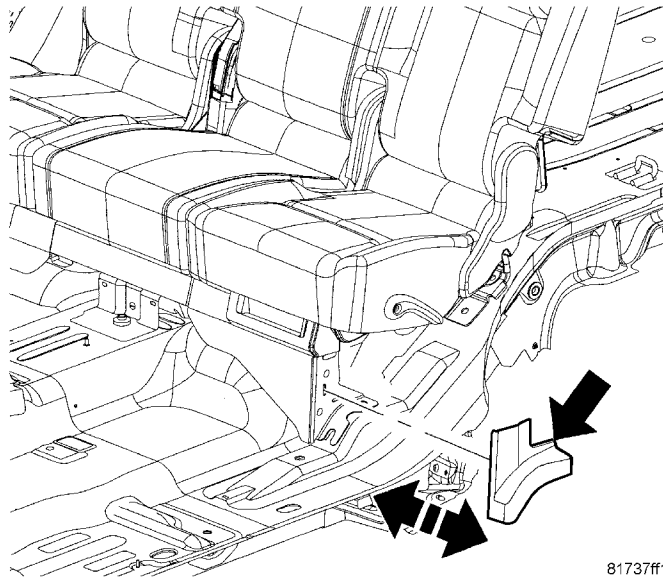

Fig. 1 SEAT SHIELD END CAP
1. Remove the trim cover end cap (Fig. 1).
13. Install the trim cover end cap (Fig. 1).